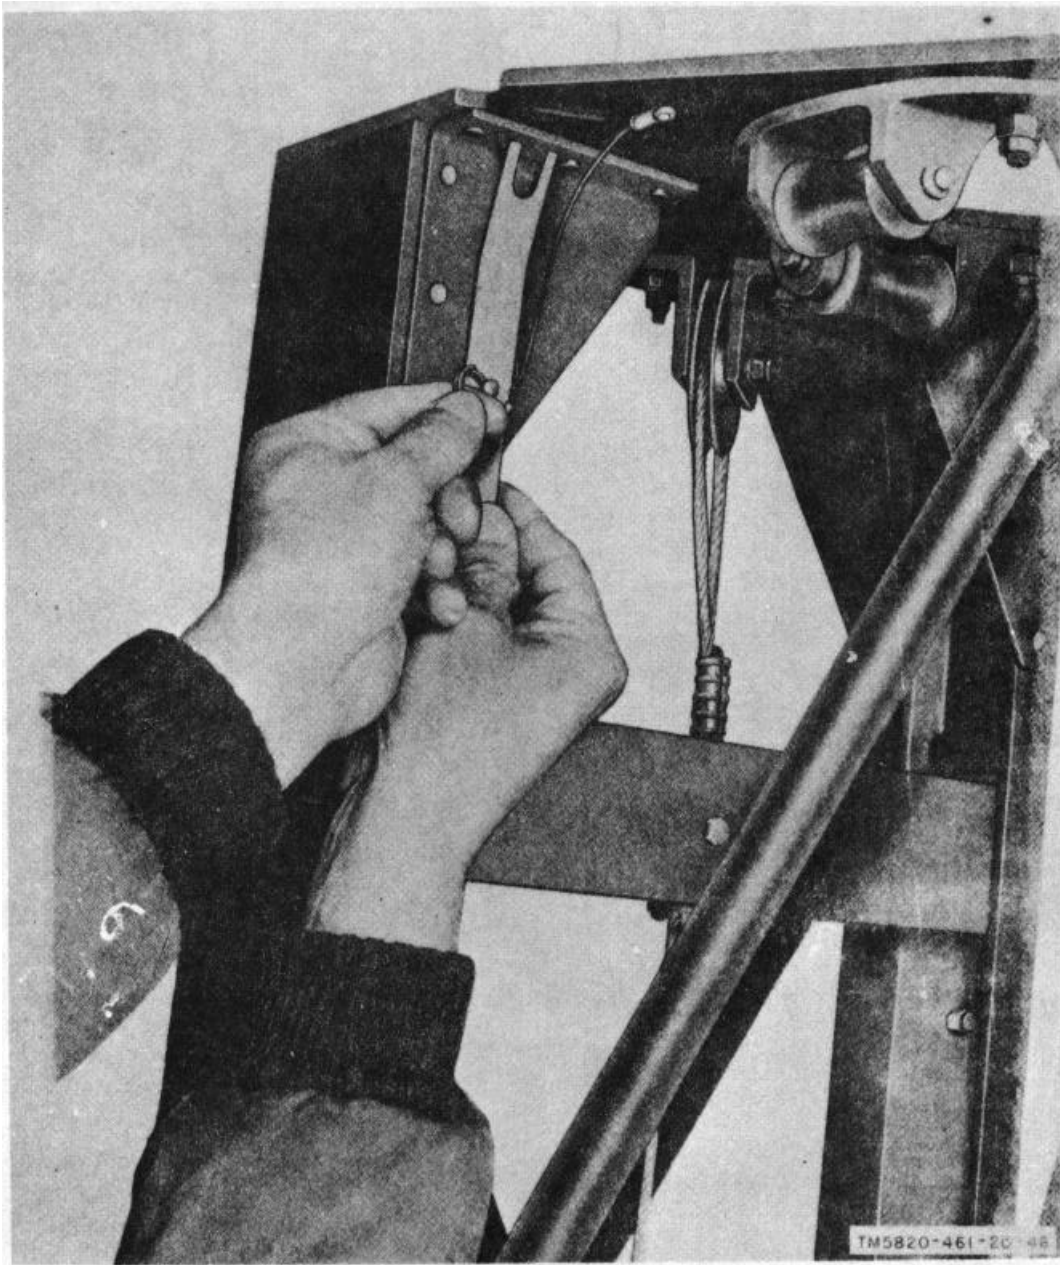

Figure 4-1. Releasing mast section coupler tool.
- (1) Release the mast section coupler tool (secured to the angle bracket under the top plate of the launcher frame (fig. 4-1)) by removing the locking pin.
- (2) Release the handbrake, and operate the winch to raise the mast sections to the upper limit. Lock the handbrake.
- (c) Position the mast section coupler tool over the angle bracket at the top of the launcher, and keep it in place with the locking pin (fig. 4-1).
- (1) Remove the GP-2 stakes that were used as hinges from the bottom of the launcher.